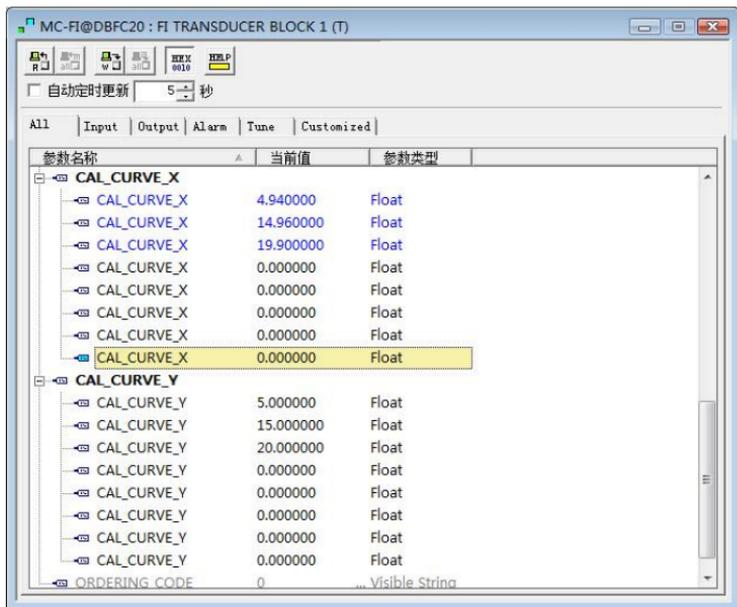

Figure 4.4 CAL_CURVE_X configuration
- 2) Measure the actual output current value using standard current meter and write them to the CAL_CURVE_X array. For example, write read values 4.94, 14.96, 19.9 to the CAL_CURVE_X array, as shown figure 4.4: